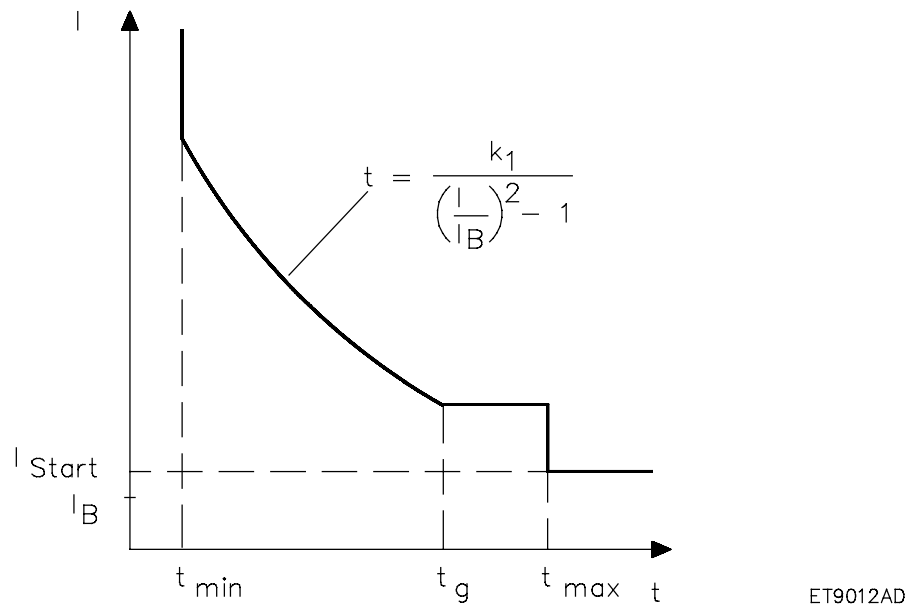

Fig. 3.5.16.1 Operating characteristic of the stator overload function
- delay inversely proportional to overload (see Fig. 3.5.16.1)